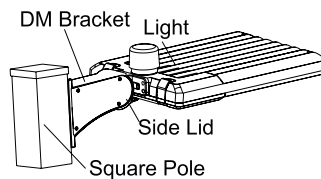

Figure 12
Step 2: Put the connected wire into the junction box, then cover the junction box. Fig. 12)